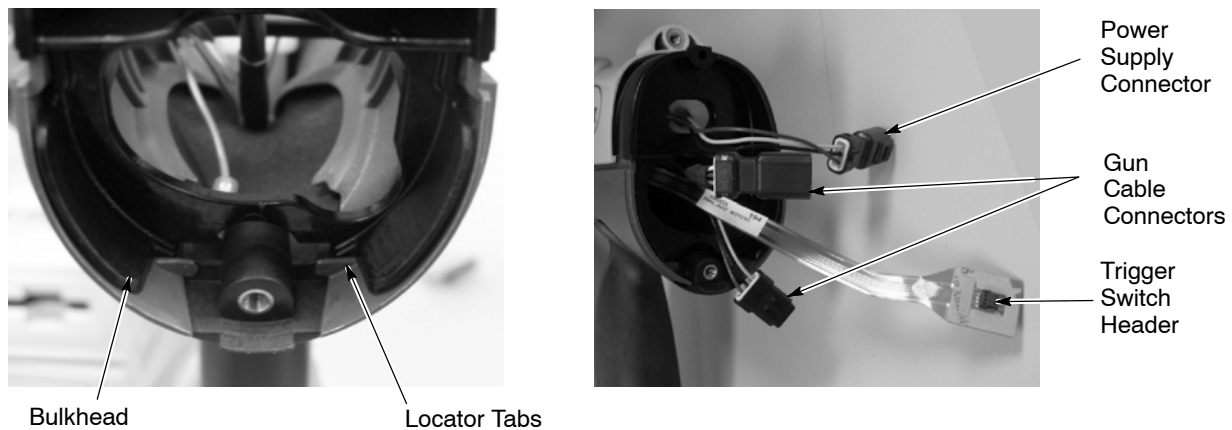

Figure 5-13 Assembling Bulkhead and Routing Cables
- See Figure 5-13. Position the lower edge of the bulkhead (8) behind the locator tabs in the rear of the handle assembly and rotate the top of the bulkhead forward until it snaps into place on the handle and gun body.